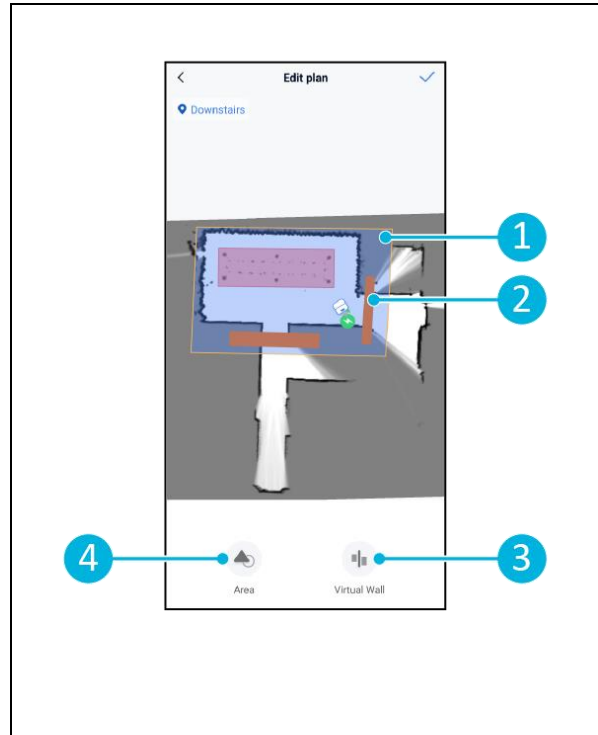

Figure 24
5. Create the Area (Figure 24, pos.1) and (Figure 24, pos. 4) that the co-botic™ 45 will clean.
6. Create, if needed, a Virtual Wall (Figure 24, pos.2) and (Figure 24, pos. 3).
6. Create, if needed, a Virtual Wall (Figure 24, pos.2) and (Figure 24, pos. 3)